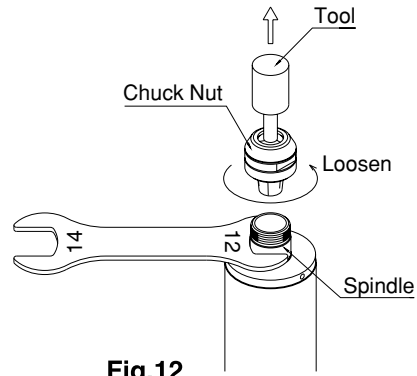

Fig.12
- ① Remove the tool according to the “Changing Cutting Tools” procedure above and remove chuck nut assembly. (Fig.12)
- ② The collet and chuck nut are held together by a groove in the collet and a flange in the chuck nut. To remove the collet hold the chuck nut in one hand and push diagonally down on the collet. The collet should pop out. (Fig.12)